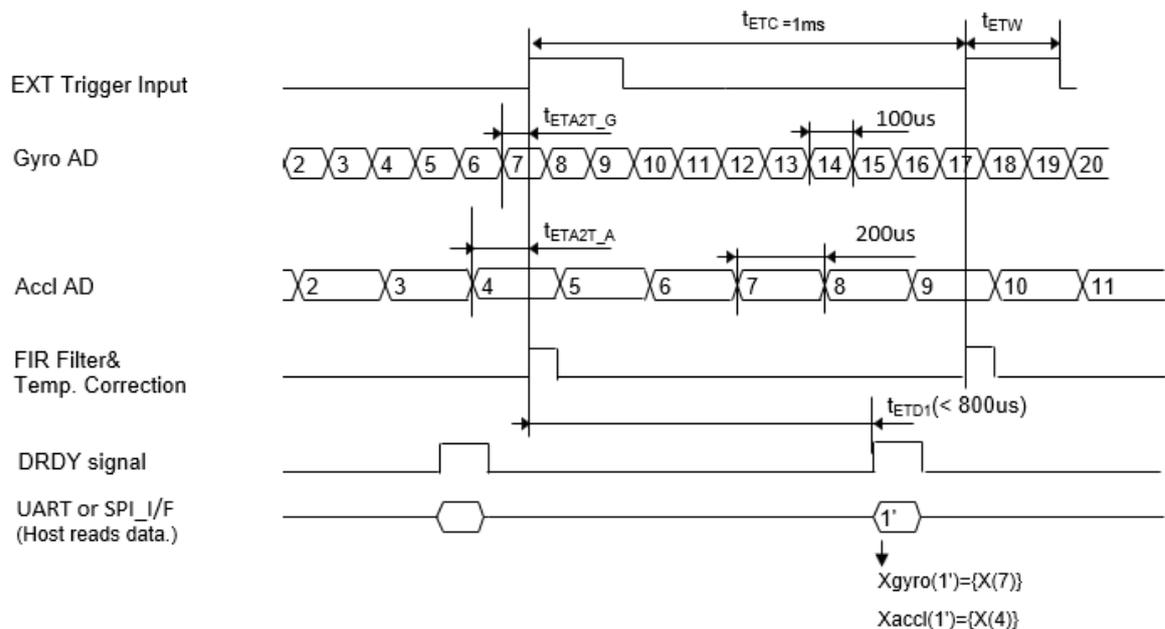
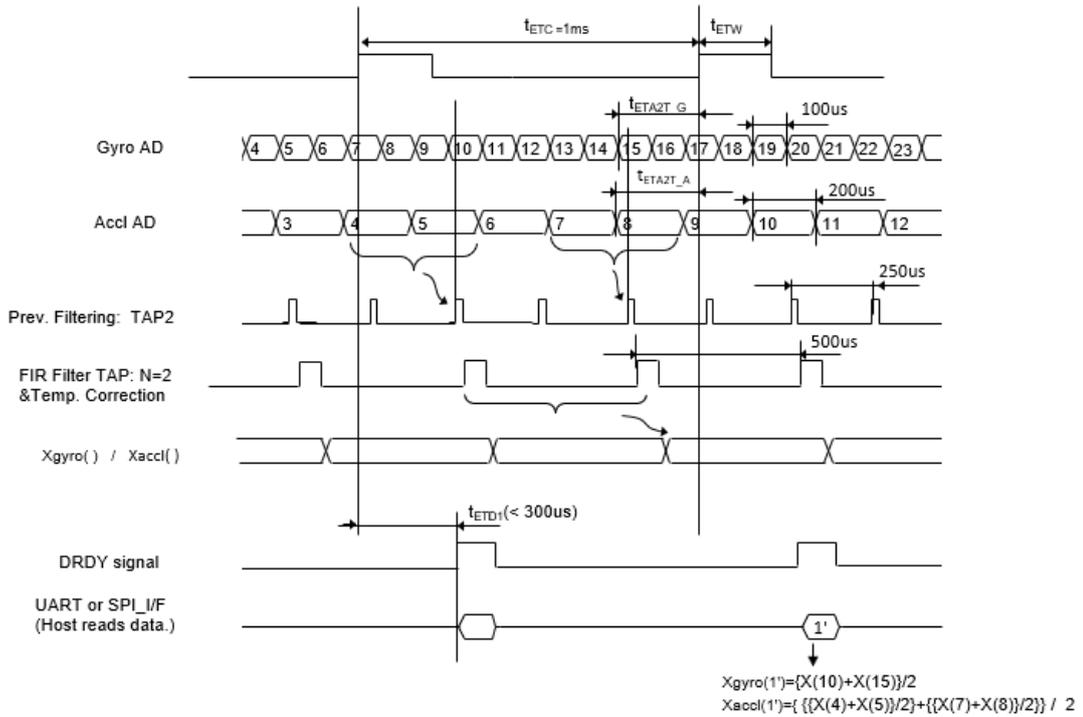
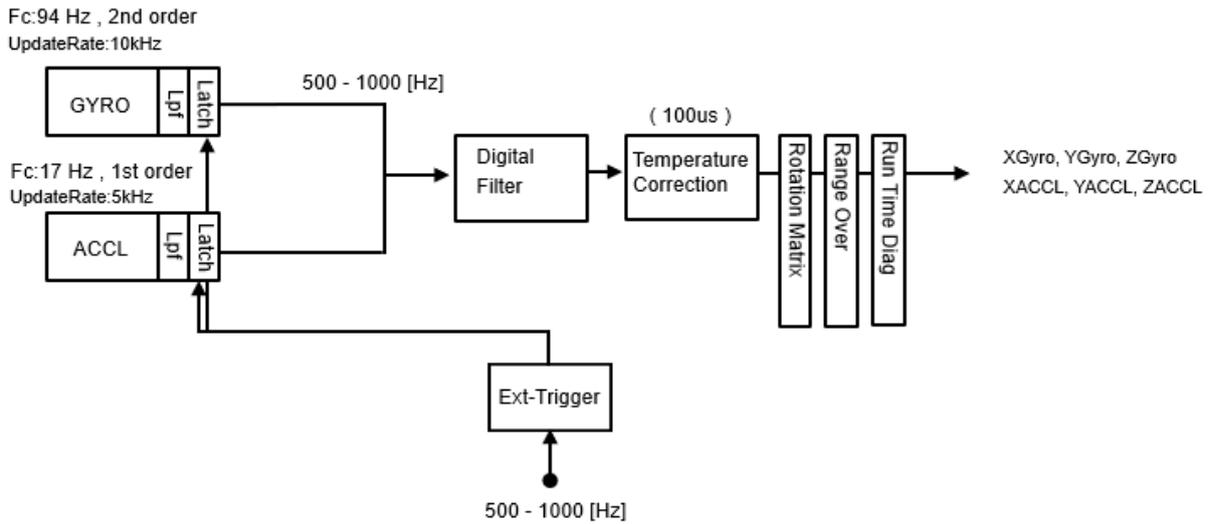
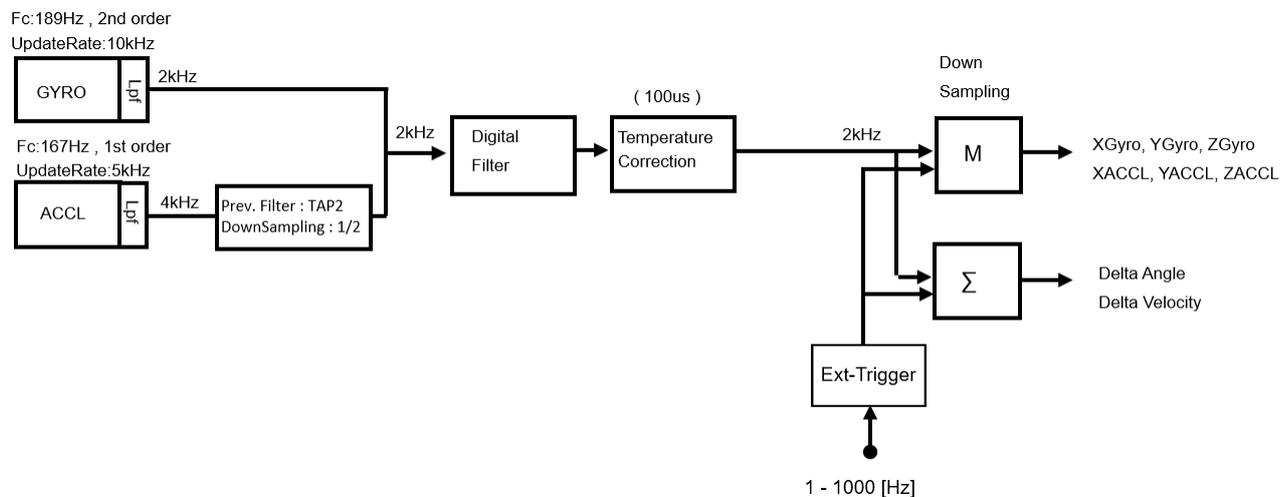

Figure 5.8 TypeA External Trigger Input (UART/SPI manual mode)
Figure 5.9 TypeB External Trigger Input (UART/SPI manual mode)
Figure 5.10 TypeA External Trigger input Functional Block Diagram
Figure 5.11 TypeB External Trigger input Functional Block Diagram
*1) By setting EXT_SEL = “10”, A_Lpf in Figure 5.10 is set to 16.7 Hz (order: 1st)
*1) By setting EXT_SEL = “10”, G_Lpf in Figure 5.10 is set to 94.4 Hz (order: 2nd)
The External Trigger Input timing requirements and diagrams are shown in Table 5.1, Table 5.2, Figure 5.8, Figure 5.9, Figure 5.10, and Figure 5.11.